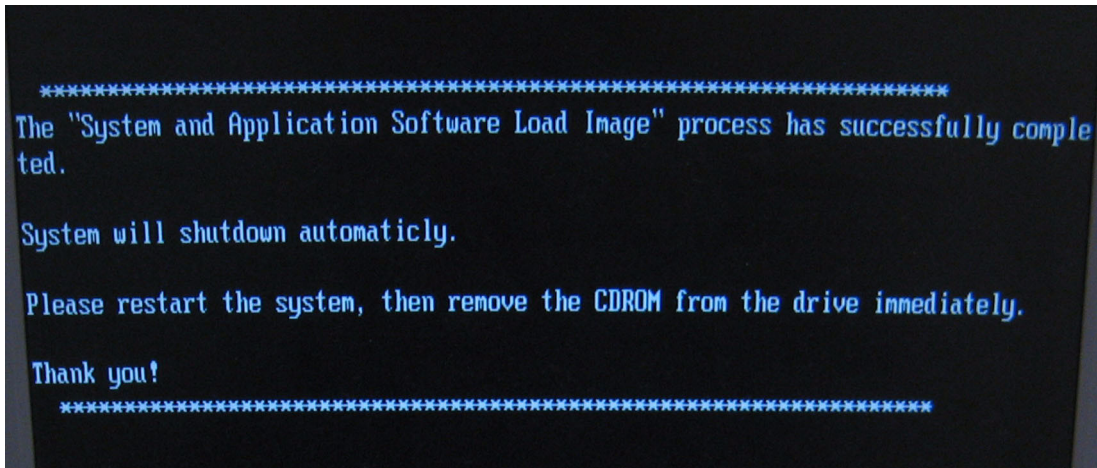

Figure 8-6 System upgrade complete
9.) System updating finished, refer to Figure 8-6 on page 8-5 .